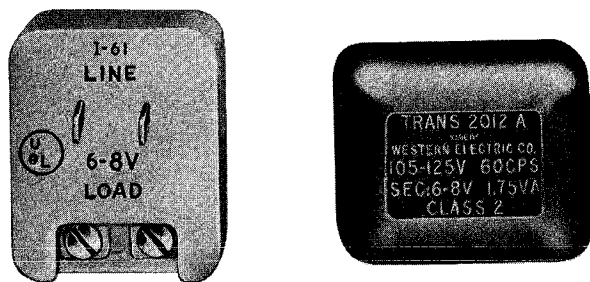

Fig. 3—2012A Transformer
- 3.01 The 2012A transformer (Fig. 3) supersedes the KS-16184, List 3 transformer.